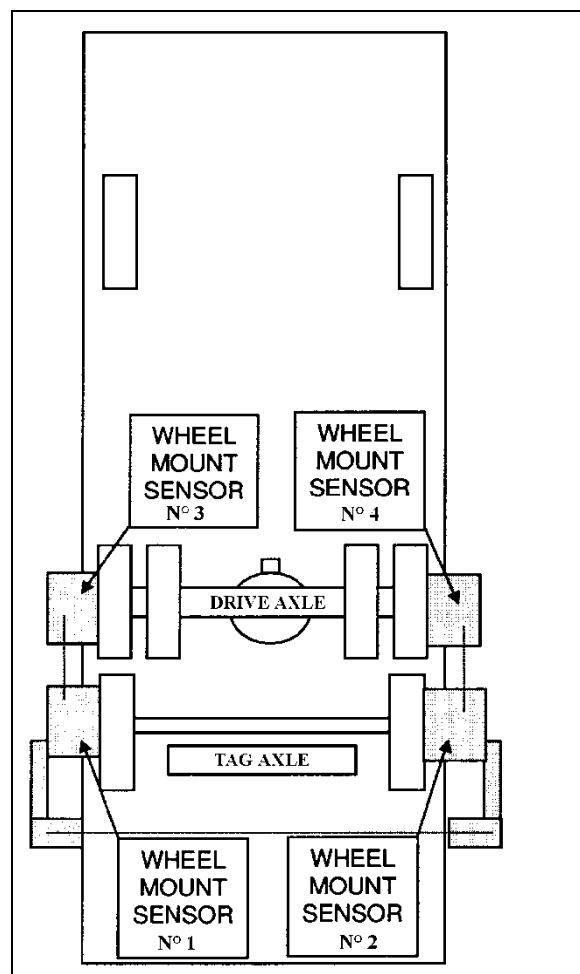

FIGURE 6: TAG AXLE ALIGNMENT 11026
*See reference numbers on wheel mount sensors (Figure 6).*
- With the system installed as in Figure 6, adjust drive axle according to specifications' chart below.
- Remove and reinstall all wheel mount sensors on the drive and tag axles (Figure 6);